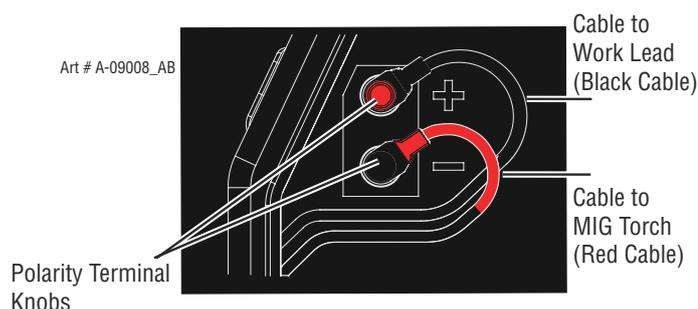

Figure 3-7: Connection for FCAW (reverse polarity)
3. Set up the polarity (as per Table 3-1 above) by removing the leads from the terminals and reversing them if necessary. Refer to Figure 3-7.